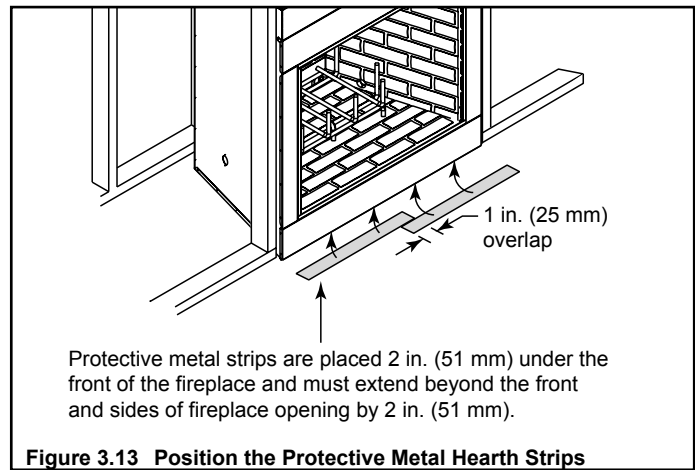

Figure 3.13 Position the Protective Metal Hearth Strips
- Metal strips must extend beyond the front and sides of the fireplace opening by at least 2 in. (51 mm), Figure 3.13).